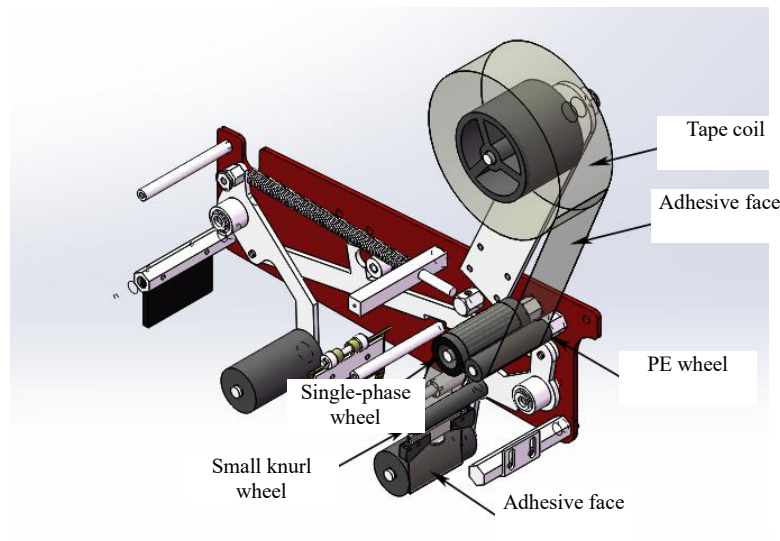

Figure 8
3.6 Tape installation and adjustment (Figure 8)	- 10 -
3.6 Tape installation and adjustment (Figure 8)